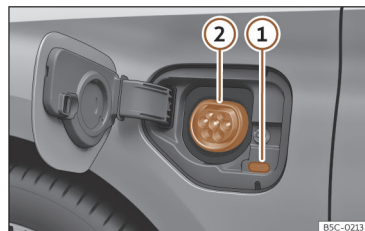

Fig. 56 Behind the battery charging cover on the front left-hand side: Charging socket
>>> **Fig. 56**
- With the vehicle unlocked, the battery charging cover opens when it is pressed >>> Fig. 56.